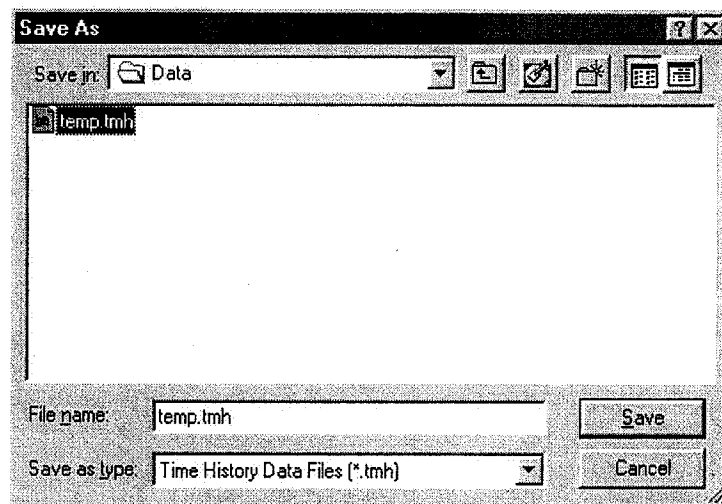

Fig. 7. 2. Save As Dialog Box.
3. Click the **Result | Time History | Expert** command to output the results for the selected cell (s). A **Save As** dialog will pop up, asking for a **File Name** and **Folder** (see Fig. 7. 2.).